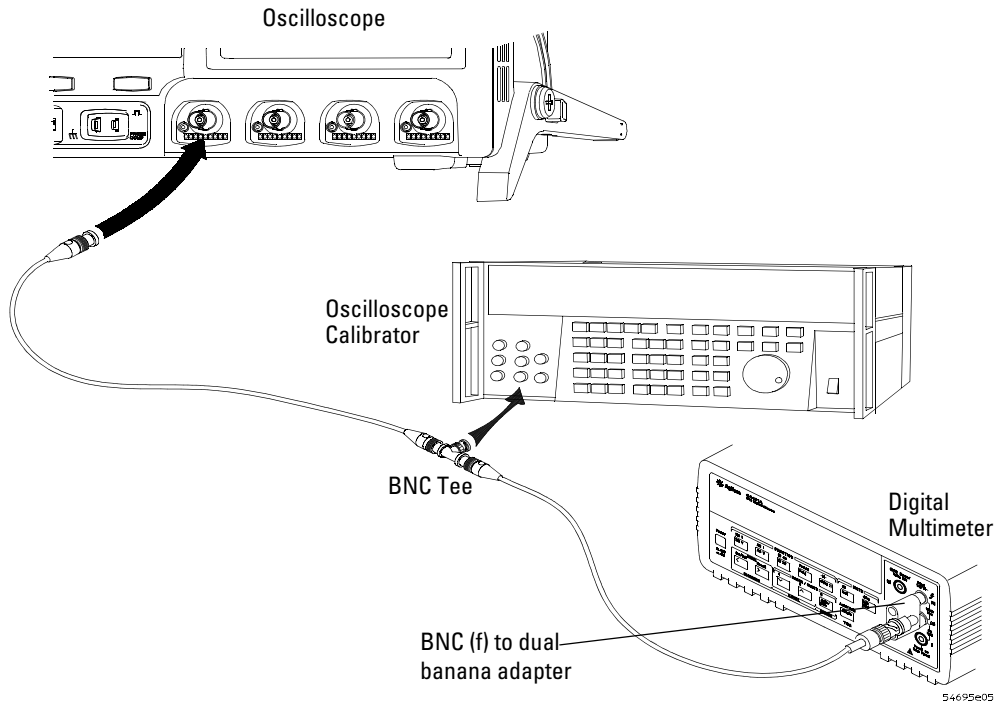

Figure 3 Setting up Equipment for Voltage Measurement Accuracy Test
- 3** Use the BNC tee and cables to connect the oscilloscope calibrator /power supply to both the oscilloscope and the multimeter (see Figure 3).